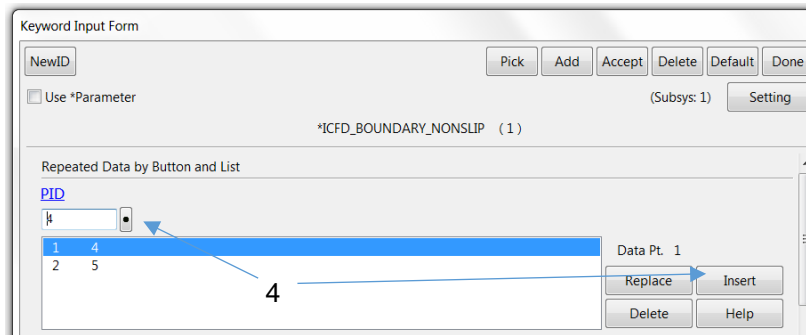

Figure 11 `*ICFD_BOUNDARY_NONSLIP` keyword.
4. Now that we have defined the inlet and outlet conditions, we have to define the walls. The first condition is the non-slip condition, which means that the velocity at the wall is zero. It will be applied on parts 4 and 5, which are the ground and plate surfaces. Select the keyword `*BOUNDARY_NONSLIP` in the keyword manager under the `ICFD` group, see Figure 11. Select part 4 and
press Insert, do the same for part 5. When both parts have been selected, press Accept and then Done, see Figure 11.